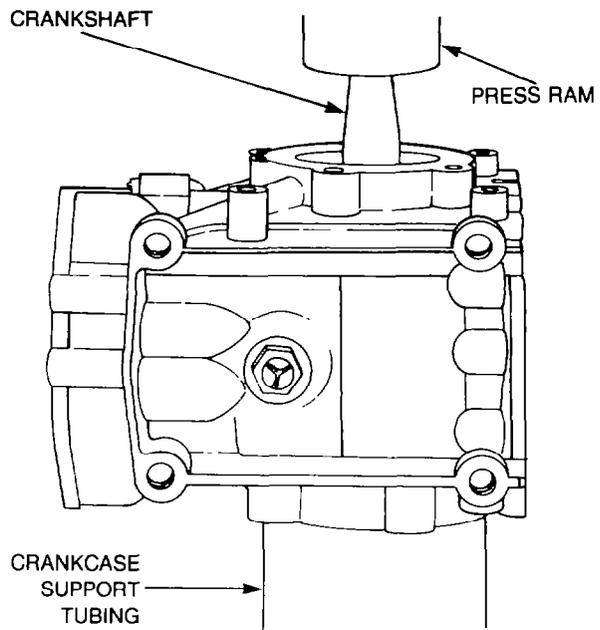

Figure 339 — Crankshaft and Bearing — Removal
- m. If a suitable oven is not available support the crankcase on a suitable press (see Fig. 339) and remove the crankshaft and bearings, then pry the bearings off the crankshaft.